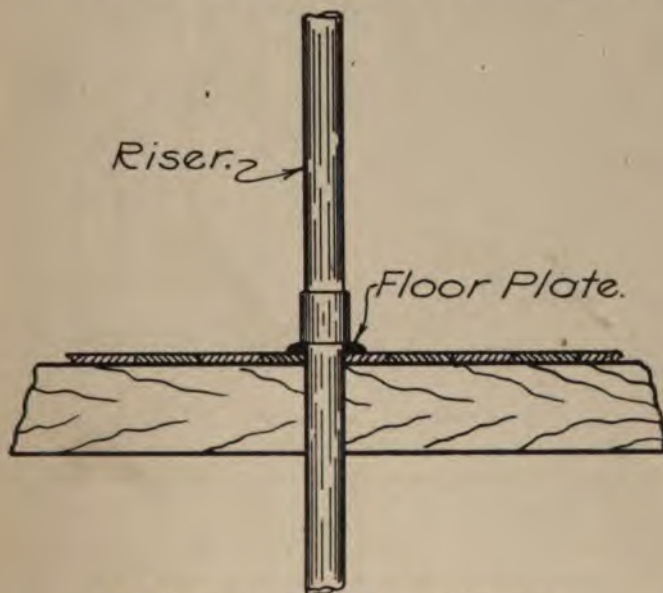

Fig. 43.—Riser Supported on Floor Plate.
A. By using a coupling on the riser which rests upon a floor plate. The riser is cut to such a length that in coupling on the extension the bottom of the coupling will rest upon the floor plate which is a neat and practical method to employ. Fig. 43.